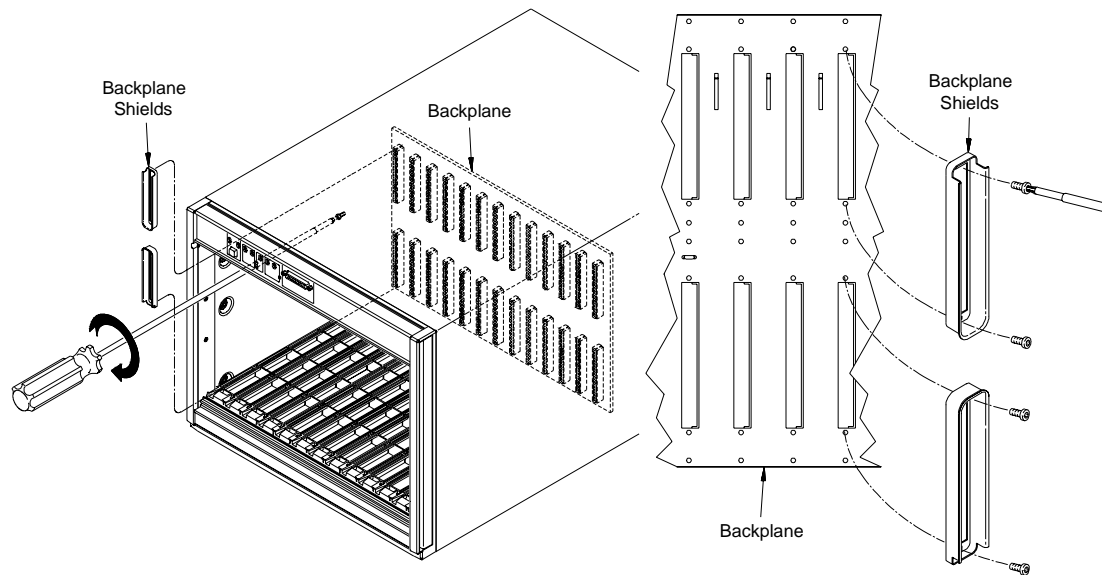

Figure B-14. Positioning the Backplane Shields on the Connectors.
1. Position the shields over the backplane connectors as shown in Figure B-14. Two connector shields and four screws are required for each slot.